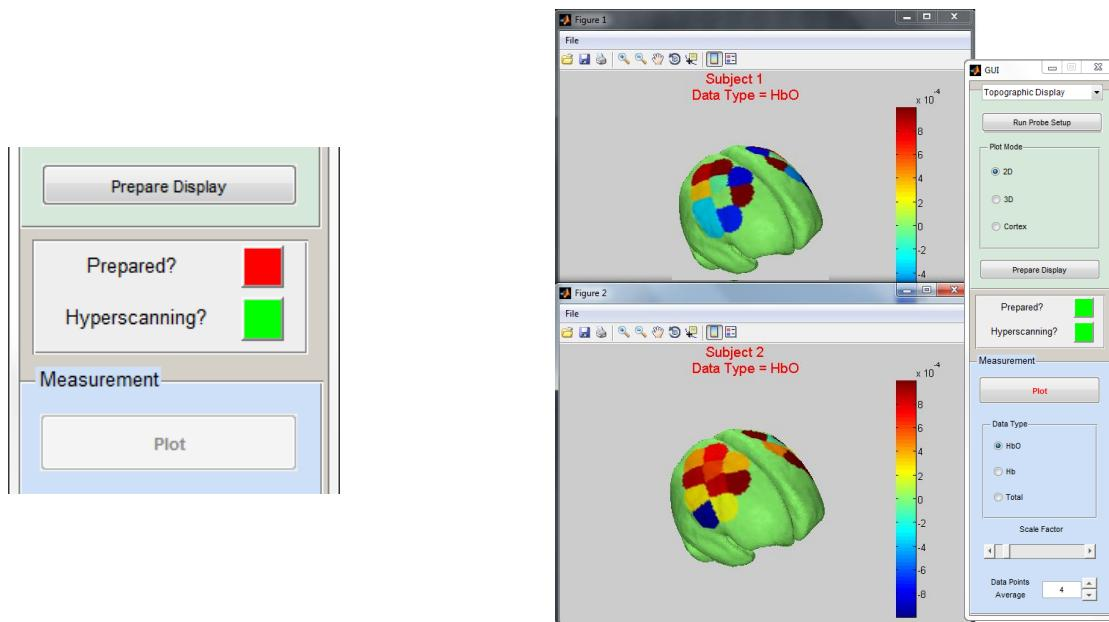

Figure 99. Hyperscanning topographic rendering. Left: Hyerscanning ‘active’ indicator in topographic control GUI; **Right:** Rendered display example.
The advanced display options as outlined under section 17 are also available for hyperscanning experiments. If the ‘Perform Hyperscanning’ option is selected in the *Channel Setup* tab, the ‘Hyperscanning active?’ indicator in the Standalone control GUI will appear green (Figure 99).
After clicking on ‘Prepare Display’, two identical Figures will appear (Figure 99). Please note that the “close” option (X) of each figure is disabled. If one wants to change the Plot Mode, please switch the button under the standalone control GUI and click on *Prepare Display*.